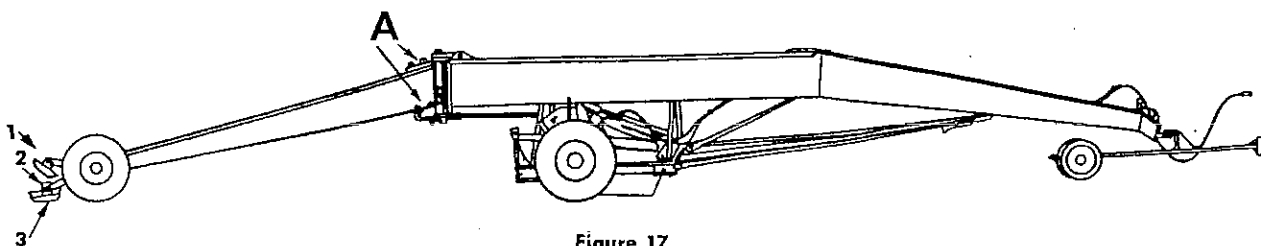

Figure 17
**WARNING!** If you want your Leveler to work properly—the rear truss hinge bolts **MUST** be kept tight (Point "A," Fig. 17). Use a long (16" to 18") wrench and tighten as much as possible.
The rear smoother blade may be used in a number of positions. (See Figure 17). *Position 1* is clear of the ground and is recommended for damp, sticky soil. *Position 2* carries part of the weight on the rear wheels, and position 3 places the smoother blade below the tires, and carries all of the rear end weight of the leveler. *Position 3* is recommended when a smooth, firm seed bed is desired prior to planting.
- B. With the leveler lifted on its wheels and the rear section trailing straight behind, sight over the rear axle forward to the main frame. Rear axle should be parallel to the main frame. If not, loosen all bolts in forward part of rear truss assembly (point "A", Figure 17) and retighten with a jack or blocking under the low side.